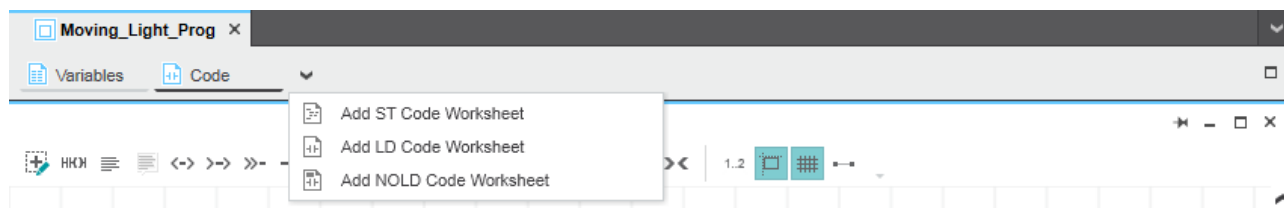

Figure 6-28 Adding a code worksheet to a POU
- Select a worksheet in the program editor (in the Figure 6-28, “Code” editor).